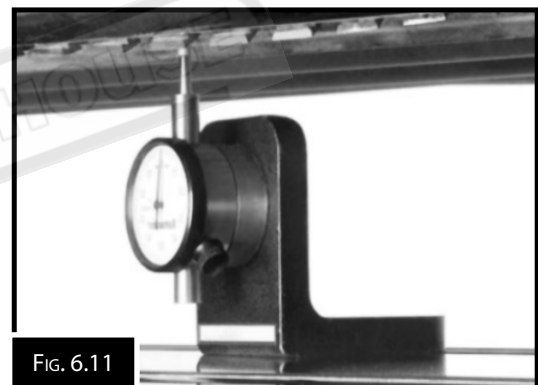

FIG. 6.11
4. Using a dial indicator as shown in Fig. 6.11, find the bottom dead centre of any blade edge by slowly rocking the cutter-head pulley back and forth until the dial indicator finds the lowest point, then set the dial indicator to zero.